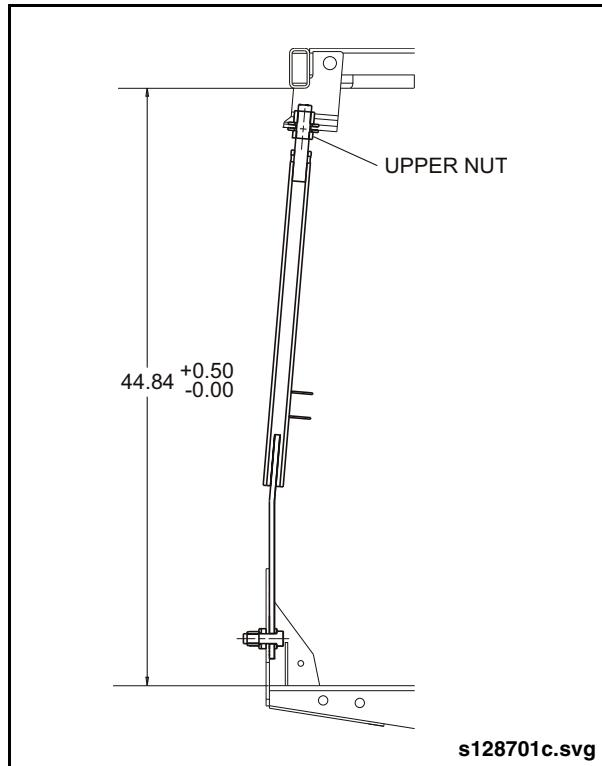

Fig. 4-14: Engine Strut Tensioning
6. Measure the distance between the lower frame rail and upper vehicle structure. **See "Fig. 4-14: Engine Strut Tensioning" on page 20.**